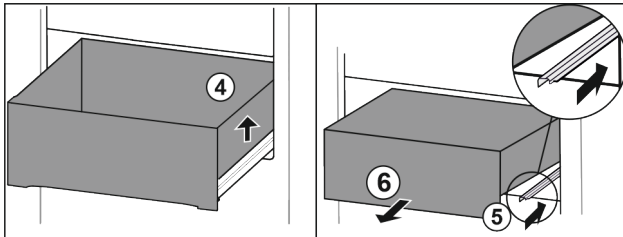

Fig. 128
- ▶ Lift drawer on the right. Fig. 128 (4)
- ▶ Insert right rail. Fig. 128 (5)
- ▶ Remove drawer to the front. Fig. 128 (6)